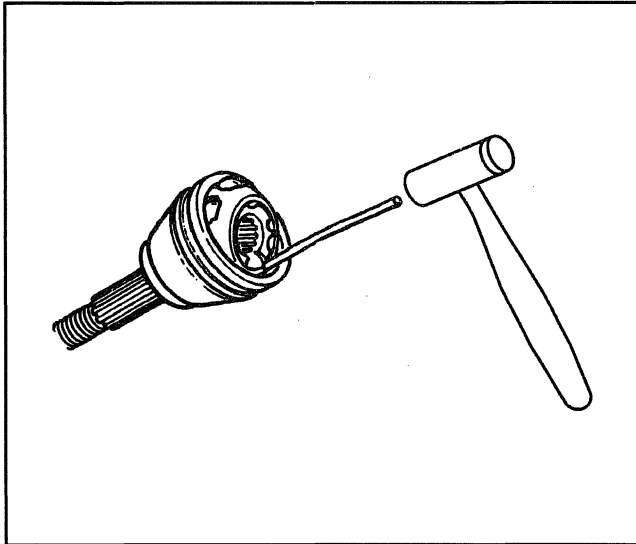

Figure 59—Removing C/V Joint Balls
Disassemble (Figures 59 and 60)
- Use a brass drift and hammer to gently tap on the C/V joint cage until it is tilted enough to remove the first chrome alloy ball (Figure 59).
Assemble (Figures 59 through 61)
- A. Tap on the cage with a brass drift to tilt it enough to install the balls (Figure 59).